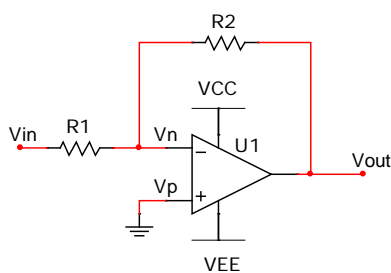
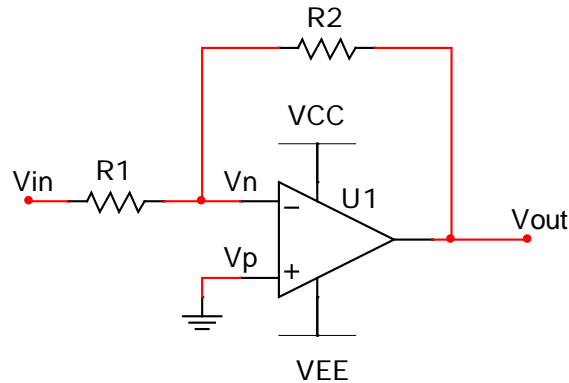

Figure 1. Inverting amplifier.
Figure 12. Inverting amplifier.
1. Analyze the inverting amplifier circuit in figure 12 (same as figure 1) to derive an equation for the gain, A_v , as a function of R_1 and R_2 .